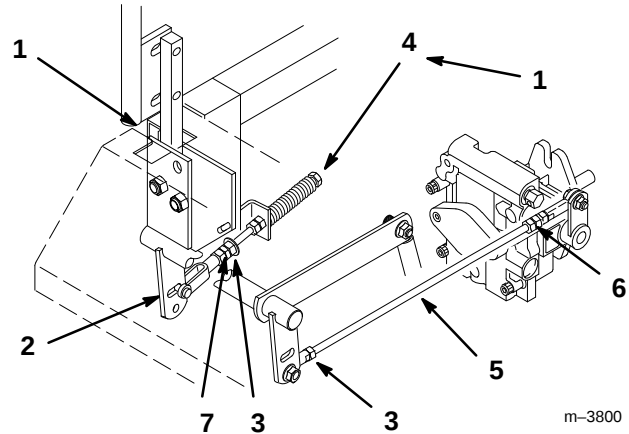

Figure 40
2. Begin with either the left or right motion control lever. Move lever to the neutral (but not locked) position and pull lever back until the clevis pin (on arm below pivot shaft) contacts the end of the slot (just beginning to put pressure on spring) (Fig. 40).
3. Check where lever is relative to notch in console (should be centered allowing lever to pivot outward to the neutral lock position) (Fig. 40).
11. Loosen locknut at ball joint on pump control rod (Fig. 40).
13. Adjust pump rod length by rotating double nuts on rod, in the appropriate direction, until wheel is still or slightly creeps in reverse (Fig. 40).